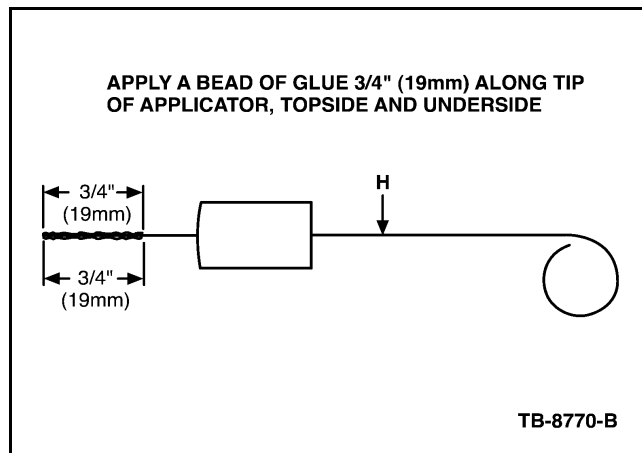

Figure 17 - Article 08-7-6
1. Apply two 3/4" (19 mm) long stripes of Loctite® 638™ to opposite sides of a clean and dry applicator (H). Excessive amounts of Loctite® 638™ are being used if it drips off the applicator. (Figure 17)